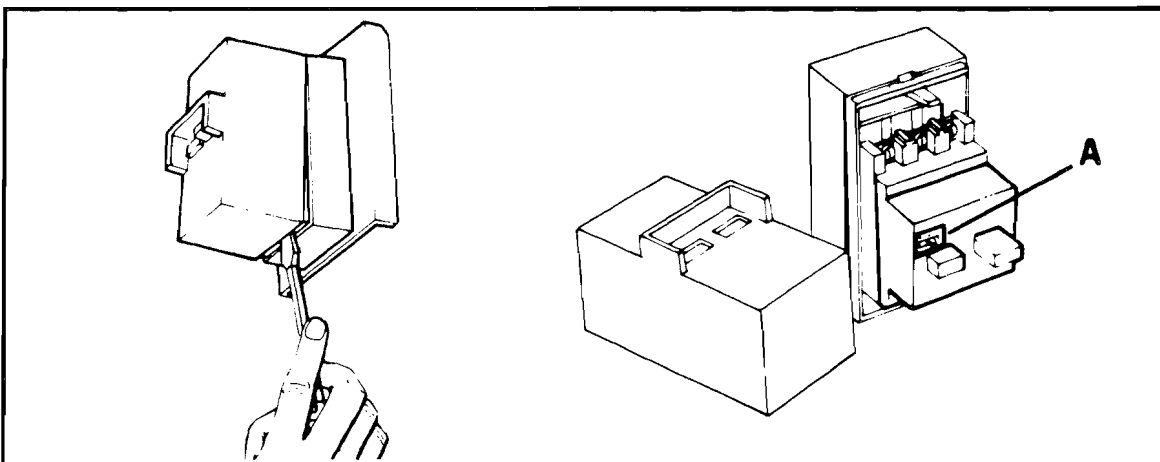

FIGURE 31 - ELECTRICAL CONTROL BOX - CIRCUIT BREAKER
The Case Sealer is equipped with a circuit breaker which trips the "On-Off" switch to "OFF" position. Located inside the electrical control box on the side of the main frame just below the conveyor bed, the circuit breaker has been pre-set for 4 amps and requires no further maintenance. Should the circuit breaker be replaced, check the calibrated amp setting before installation. Remove the front cover on the electrical box from the under side as shown in figure 31 and set the amp setting (A) at 4 amps.